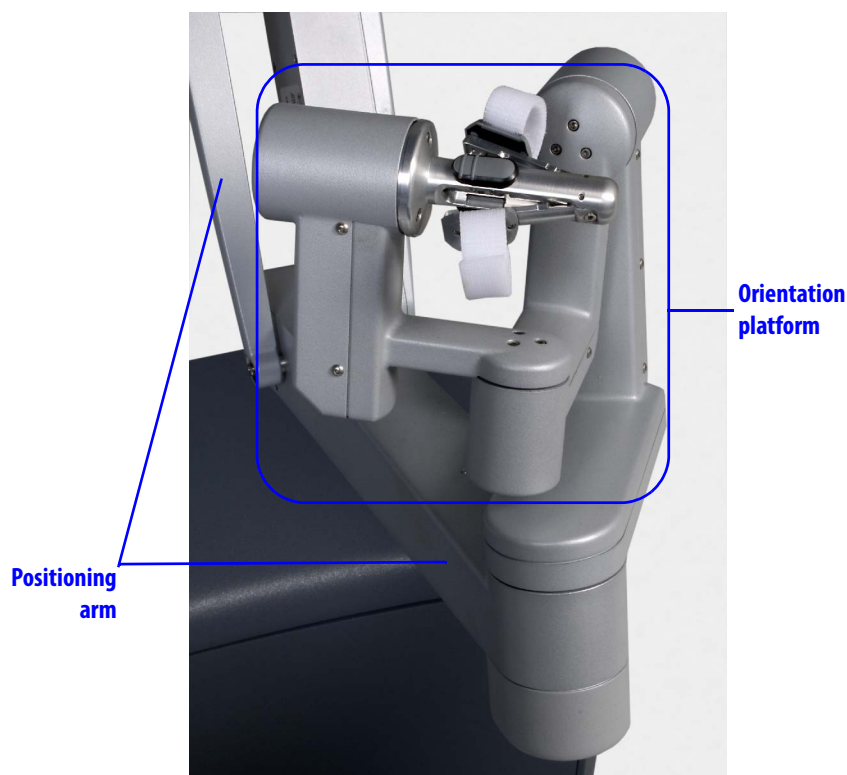

Figure 10.2 Master controller
- The orientation platform (Figure 10.2) rotates the instrument tips and opens and closes the grips of the instruments.
- The positioning arm (Figure 10.2) moves the instrument in the surgical environment. Positioning movements can be scaled to a 3:1 (Fine), 2:1 (Normal), or 1.5:1 (Quick) ratio.